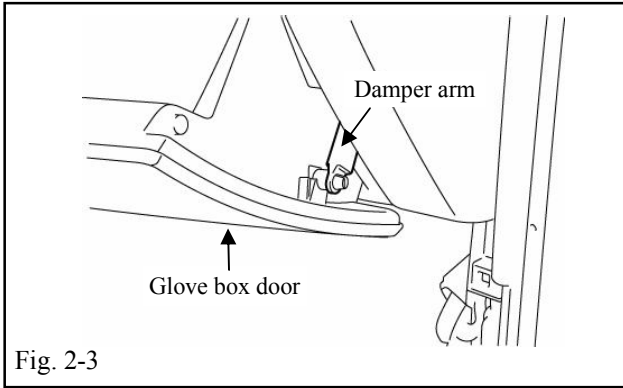

Fig. 2-3
(1) Remove damper arm from glove box door. (Fig. 2-3)